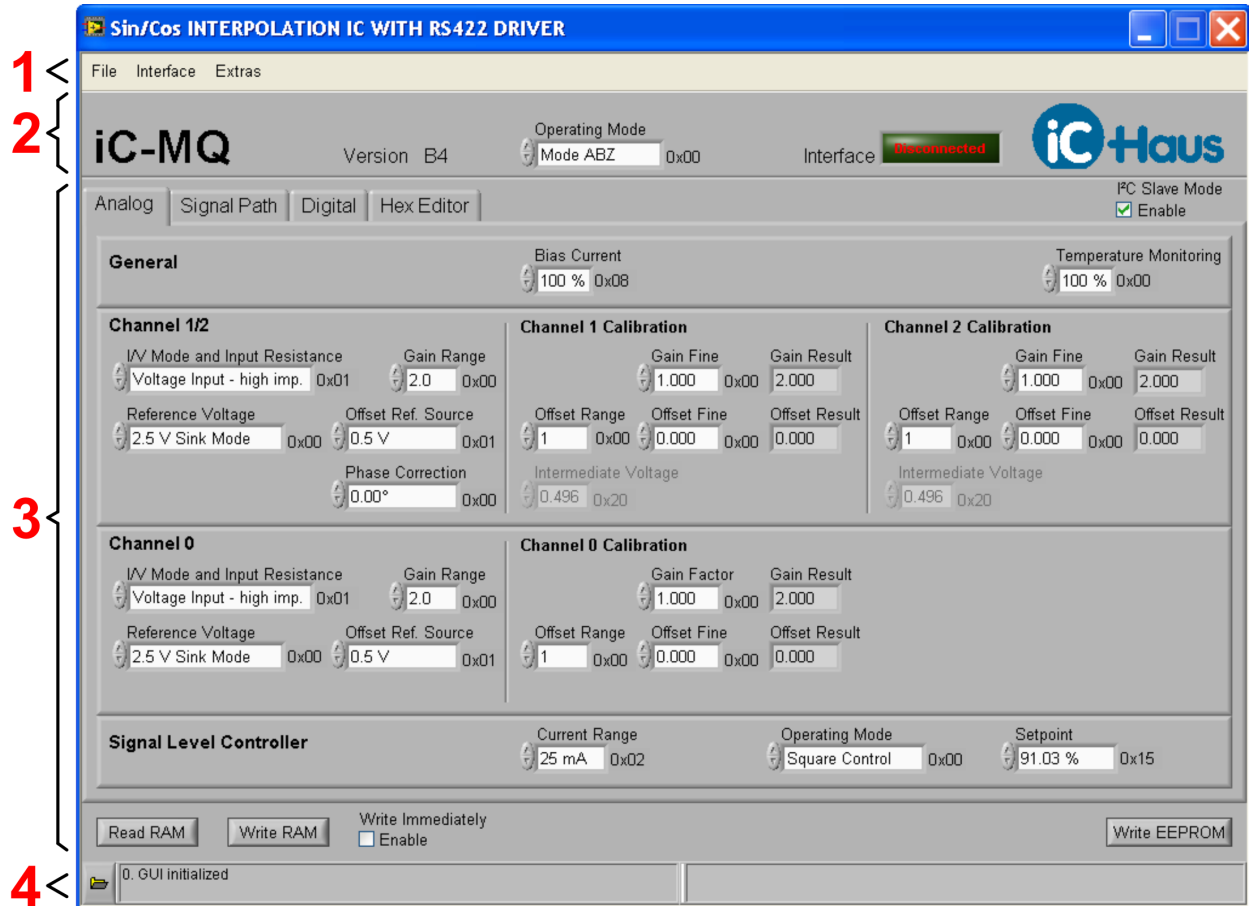

Figure 4: Evaluation software start-up window
3. After installation the executable MQ1SO_gui_xx.exe will be available in the selected working directory. Figure 4 shows a screenshot of the evaluation software.